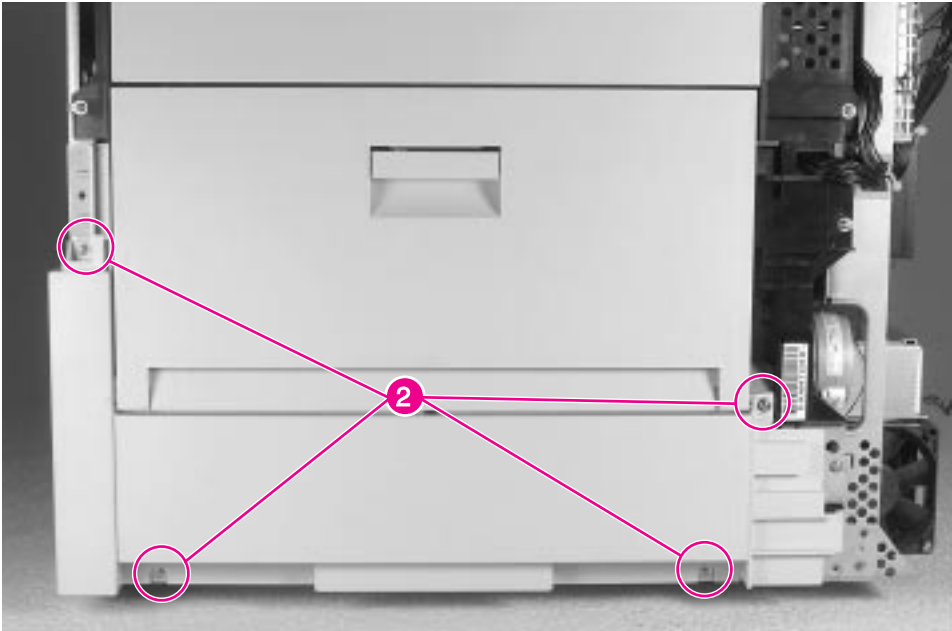

Figure 6-16 Right Lower Door Assembly (2 of 3)
- 4 Remove 4 screws (figure 6-16, callout 2).